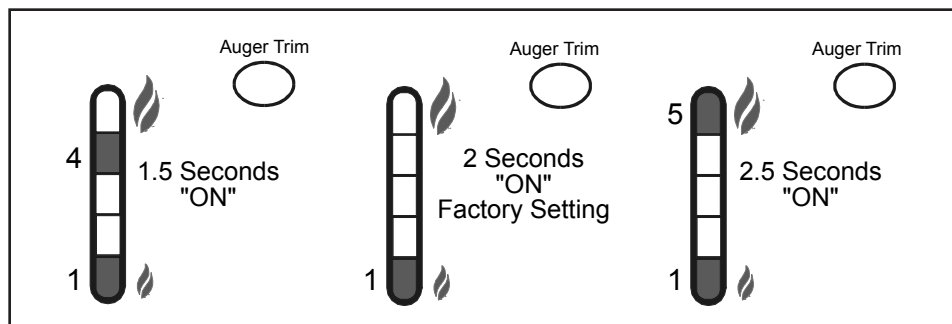

Figure 3: Auger trim and heat level indicator.
- 1. AUGER TRIM:** Used to change feed rates on LOW ONLY for poorer quality fuels. Push the Auger Trim button until the number 1 and 5 lights appear on the Heat Level Indicator. This will increase the feed rate to 2.5 seconds ON time Auger pulse. This is done only on LOW to allow the burning of poor quality fuels. Push the button until the number 1 and 4 lights appear, this will reduce the Auger On time to 1.5 second. This setting is for high-grade fuel only. Push the button until just the number 1 light is on, this is for a 2 second ON time (standard setting). Refer to Figure 3.